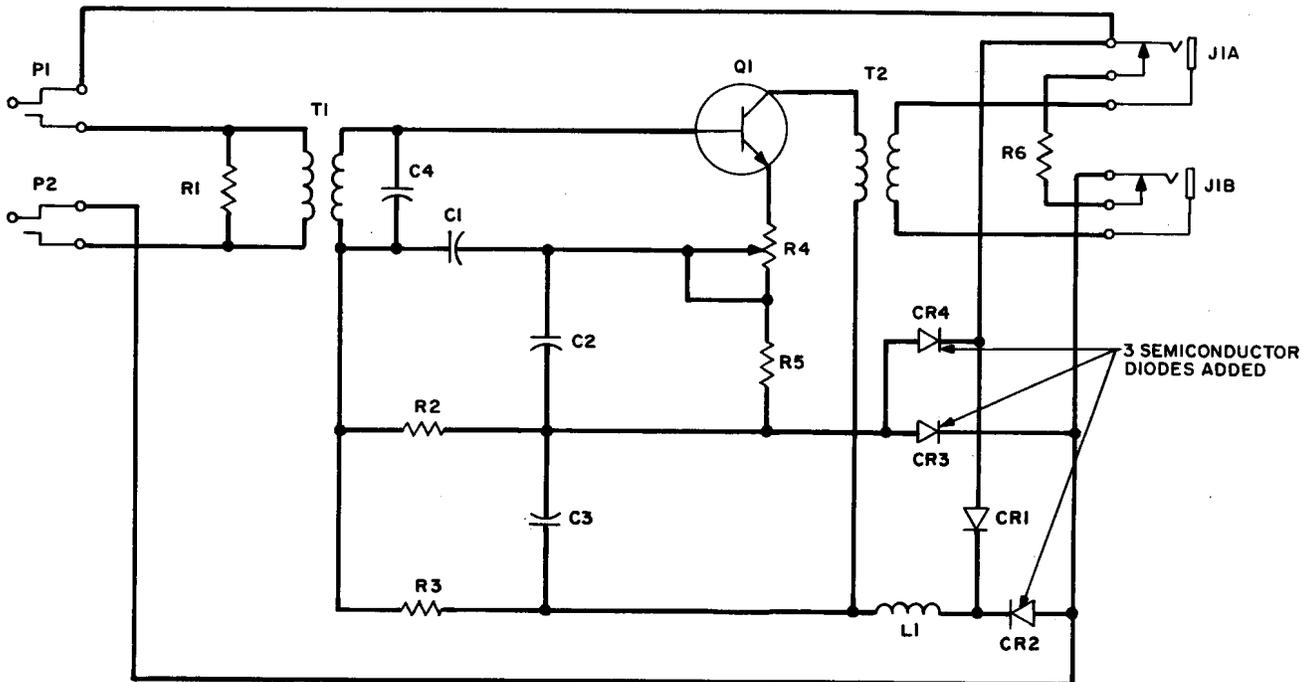

Fig. 5 - Modified Circuit for Nonpolarized Use
**3.04** In those cases where it is necessary to use this amplifier under conditions as in 3.03, where talking battery is reversed, during a call, or from call-to-call, provision has been made to modify the amplifier to function under these conditions. A full-wave rectifier bridge consisting of three semiconductor diodes is inserted in the power leads as shown in Fig. 5. When amplifiers of this type are required, proper requests for it should be made through the regular routine.